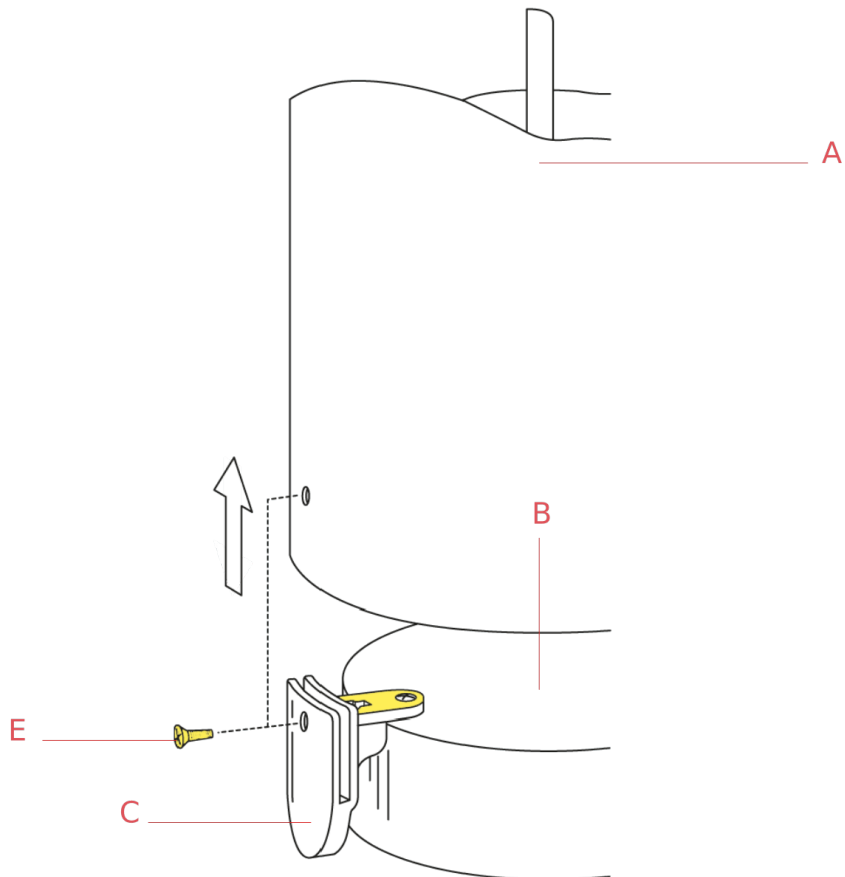

Fig.1
Assemble the diffuser (A) by fastening screws (E) supplied in the spare-part kit.(Fig.1 page 22)